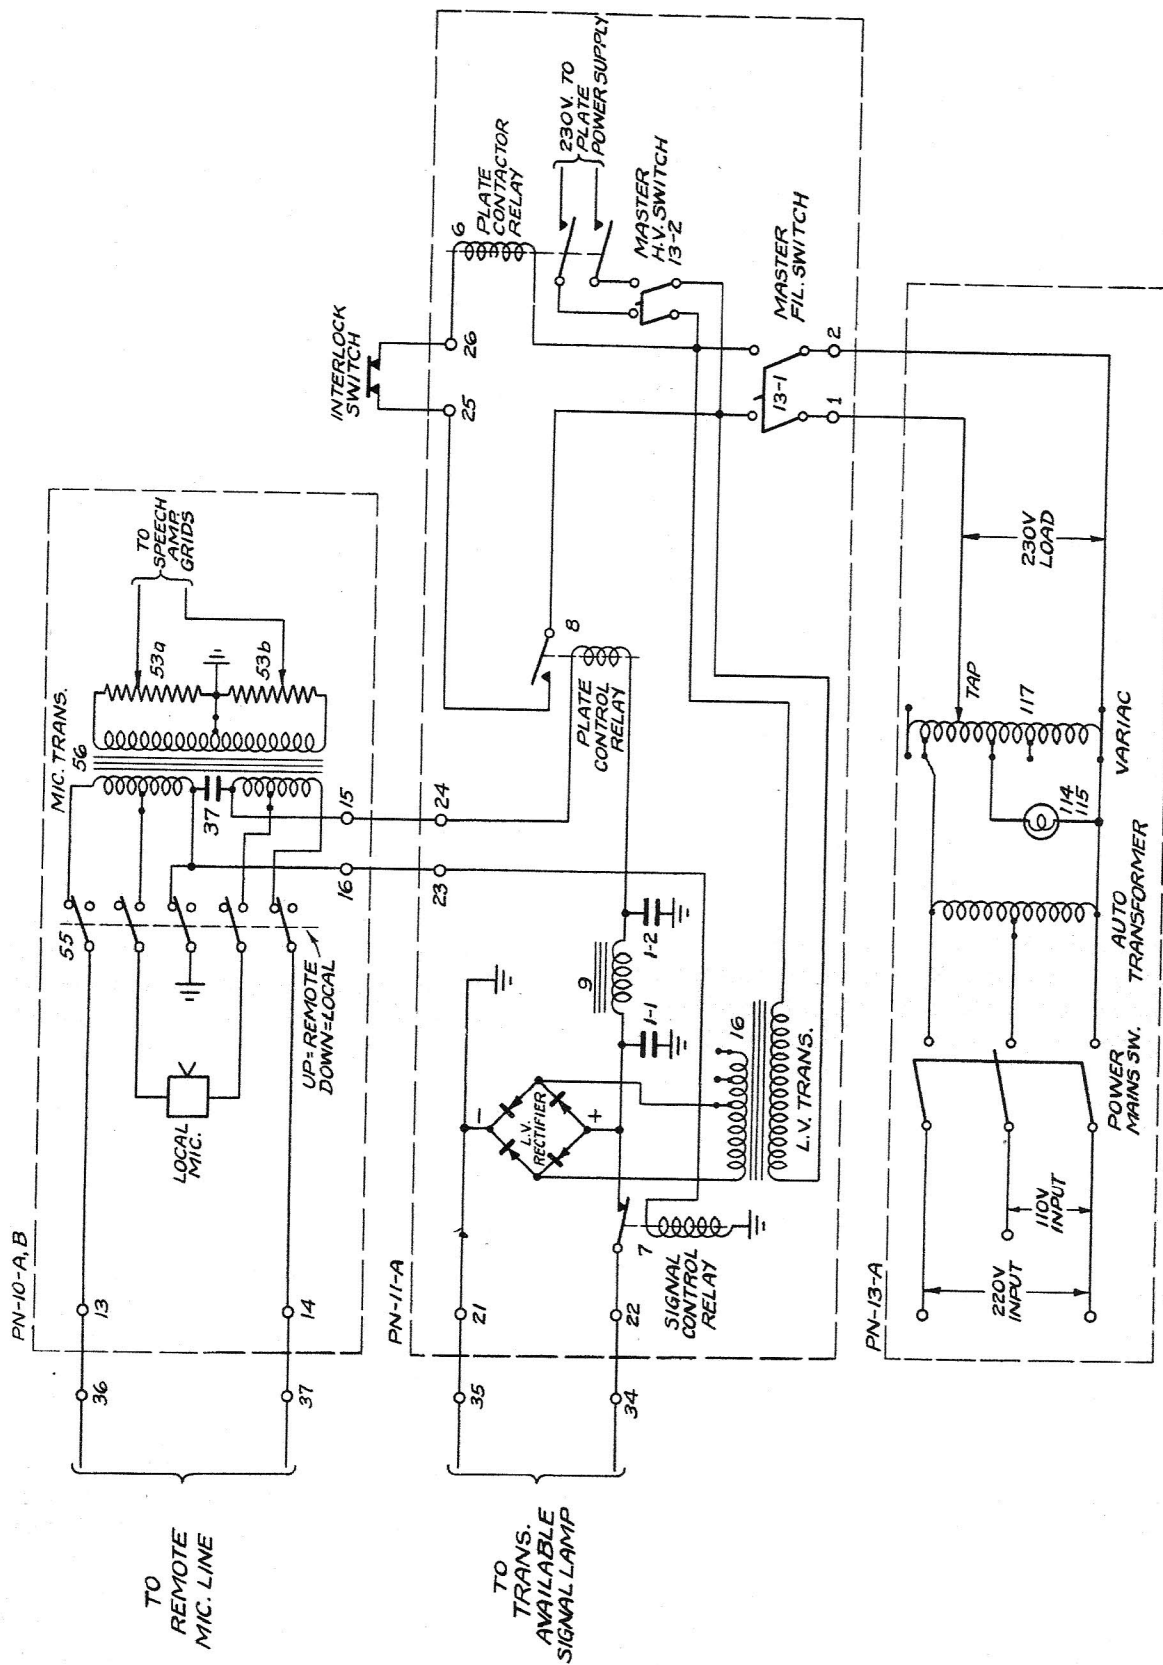

Figure 20 — Microphone and Power Input and Operating Circuits, Simplified Diagram
For remote operation when the **REMOTE-LOCAL** switch (55) on the modulator panel is at **REMOTE**, a microphone may be inserted in the line and between terminals 36 and 37 on the terminal board at the base of the cabinet. The plate relay (8) will close when a microphone and a 200-ohm resistor is in series with the terminals 36 and 37. This will switch on the transmitter. Terminal 23 will be grounded through the lever key on the modulator panel and the signal relay will not operate, therefore the signal lamp will be lighted during remote operation. See figure 20.
a. **LOW VOLTAGE SUPPLY.**—The primary of the filament transformer (97) is wound for 230 volts, 50/60 cycles, 61 volt-amperes. Primary terminals 1 and 2 of the filament transformer are connected to terminals 4 and 5 on the terminal board. There are four secondary windings, two of which are identical and rated 5 volts center-tapped at 15 volt-amperes. The third winding has a rating of 30 volt-amperes and is otherwise identical to number one and two windings. Secondary winding number four, rated 4 volts at 1 volt-ampere, supplies power for the filament pilot-lamp and is connected to terminals 10 and 11 on the terminal boards. Windings one, two and three supply the filaments of the four tubes, Tube VT-145 (5Z3). Three filament windings are necessary because with the bridge type of rectifier, all of the filaments are not at the same direct current potential. The primary winding is insulated for 1,500 volts (rms) to ground. Secondary windings number one, two and three are insulated for 400 volts (rms) to ground and to all other windings, while the number four winding is insulated for 1,000 volts (rms).
b. **HIGH-VOLTAGE SUPPLY.**—The high-voltage plate transformer (98) has a primary winding for 230 volts, 50/60 cycles, 350 volt-amperes and is extended for half-voltage at one-quarter of the total watts. The primary transformer terminals 1, 2 and 3 are connected to terminals 1, 2 and 3 respectively on the terminal board. The power-supply which supplies Modulator Panel PN-10-A has no external connection to this terminal board and terminal 1 is not used. The radio-frequency power-supply makes use of the extended winding and is connected to the **TUNE-OPERATE** switch (14) on Control Panel PN-11-A. This switch is used to reduce the maximum high voltage to approximately one-half for the two radio-frequency panels as a protection when tuning the transmitter.
Since the transmitter is a closely coordinated unit, the operating circuits involve several panels. A clear understanding of their functioning can be had by studying figure 20.